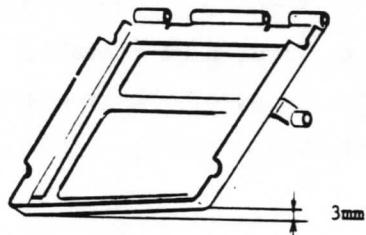

Fig. 40
(3) In order to keep the parallel of Mirror holder, the left side of the Mirror holder is bent about 3mm as shown in Fig.40.
(4) Assemble in the reverse order of disassembly.
(5) Replace shaft (RS2421).